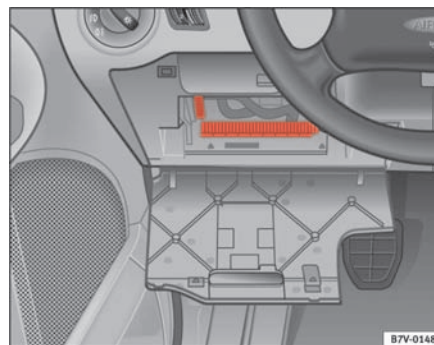

Fig. 162 Left side of dash panel: fuse box
- Remove the fuse box cover \Rightarrow fig. 162.